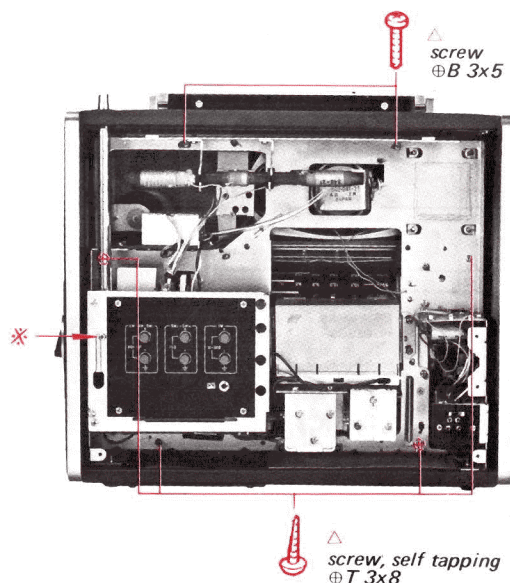

Fig. 2-3
4. Remove the six screws marked $\triangle$ which fasten the front panel to the chassis in Fig. 2-3.